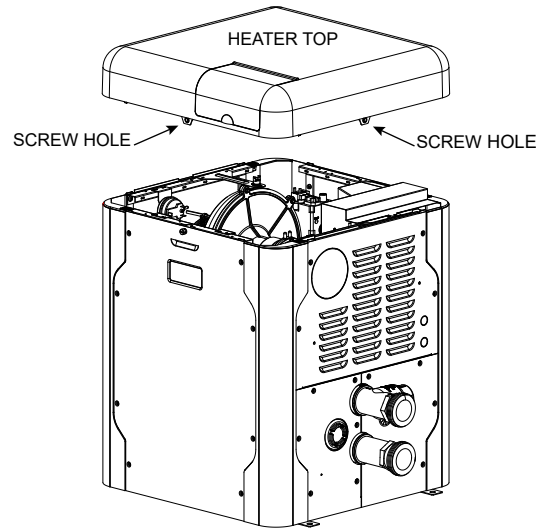

Figure 34. Heater Top Removal
To rotate the top, remove the (2) knurled screws holding the jacket top to the heater as shown below. Rotate the top to the desired position and reinstall the knurled screws to retain the jacket top. See **Figure 34** on page 27.
1. Remove the knurled screws from front and rear door. See Figure 34. Set jacket top aside for serviceability.